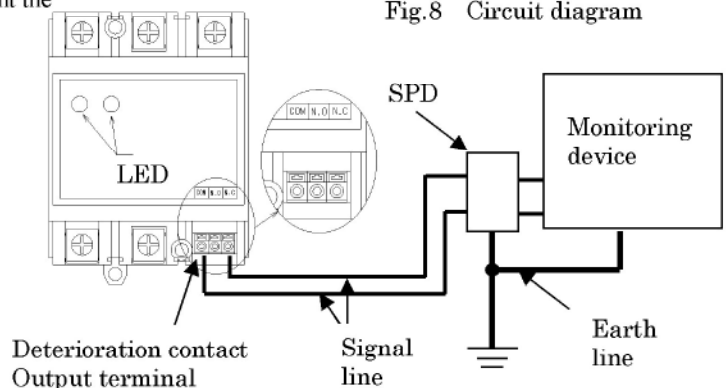

Fig.9 Installation method of the SPD (Connection example, b type : LT-44T2HTS is only applied)
- (3) When connecting signal line to the deterioration contact output terminal, install the SPD as shown in below table on adjacent the monitoring device to protect it against lightning surge. (Ref: Fig.9)